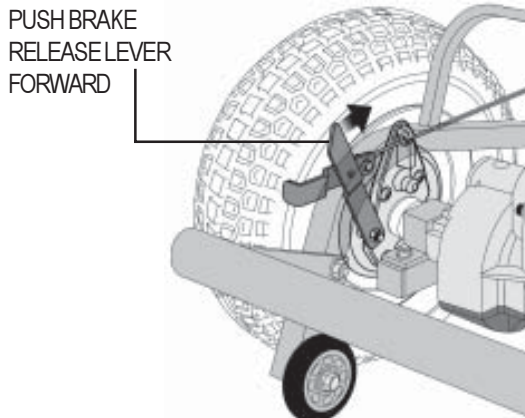
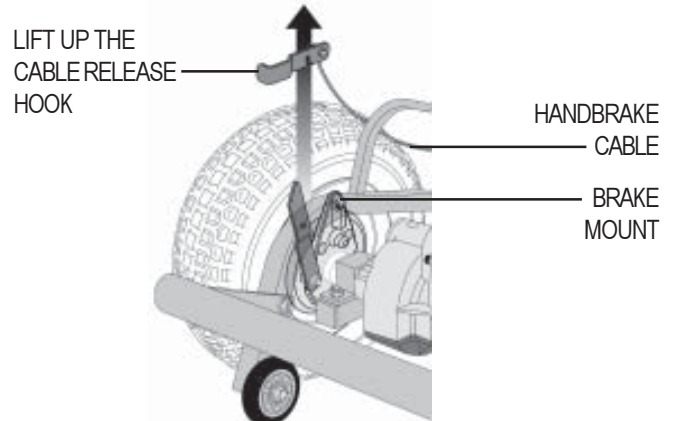

FIGURE 22. DISENGAGE HANDBRAKE CABLE
FIGURE 23. DISENGAGE HANDBRAKE CABLE
- Disconnect the handbrake cable from the rear hub by pushing forward and holding the brake release lever with your thumb. See figure 22. Lift the cable release hook free of the peg and slide the handbrake cable free of its slot on the brake mount. See figure 23. Move the cable safely out of the way.